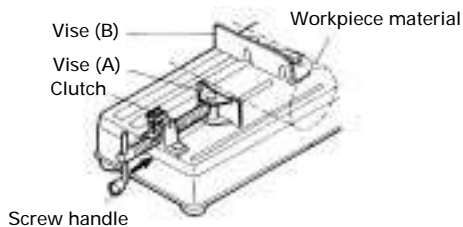

Fig. 2
### 1. Procedure for fixing the cutting material (Fig. 2 and 3)
Place the workpiece material between vise (A) and vise (B), raise the clutch and push the screw handle to bring vise (A) lightly into contact with the workpiece material, as shown in Fig. 2.